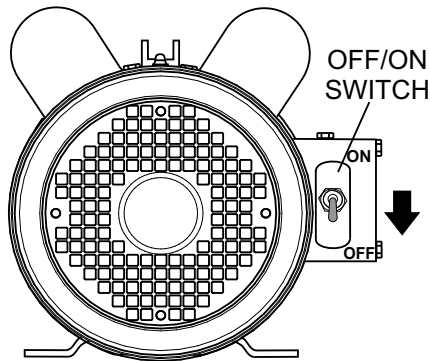

Figure 31. Electric Motor OFF/STOP Switch
1. To turn off the electric motor (Figure 31), place the **ON/OFF** switch in the **OFF** position. .